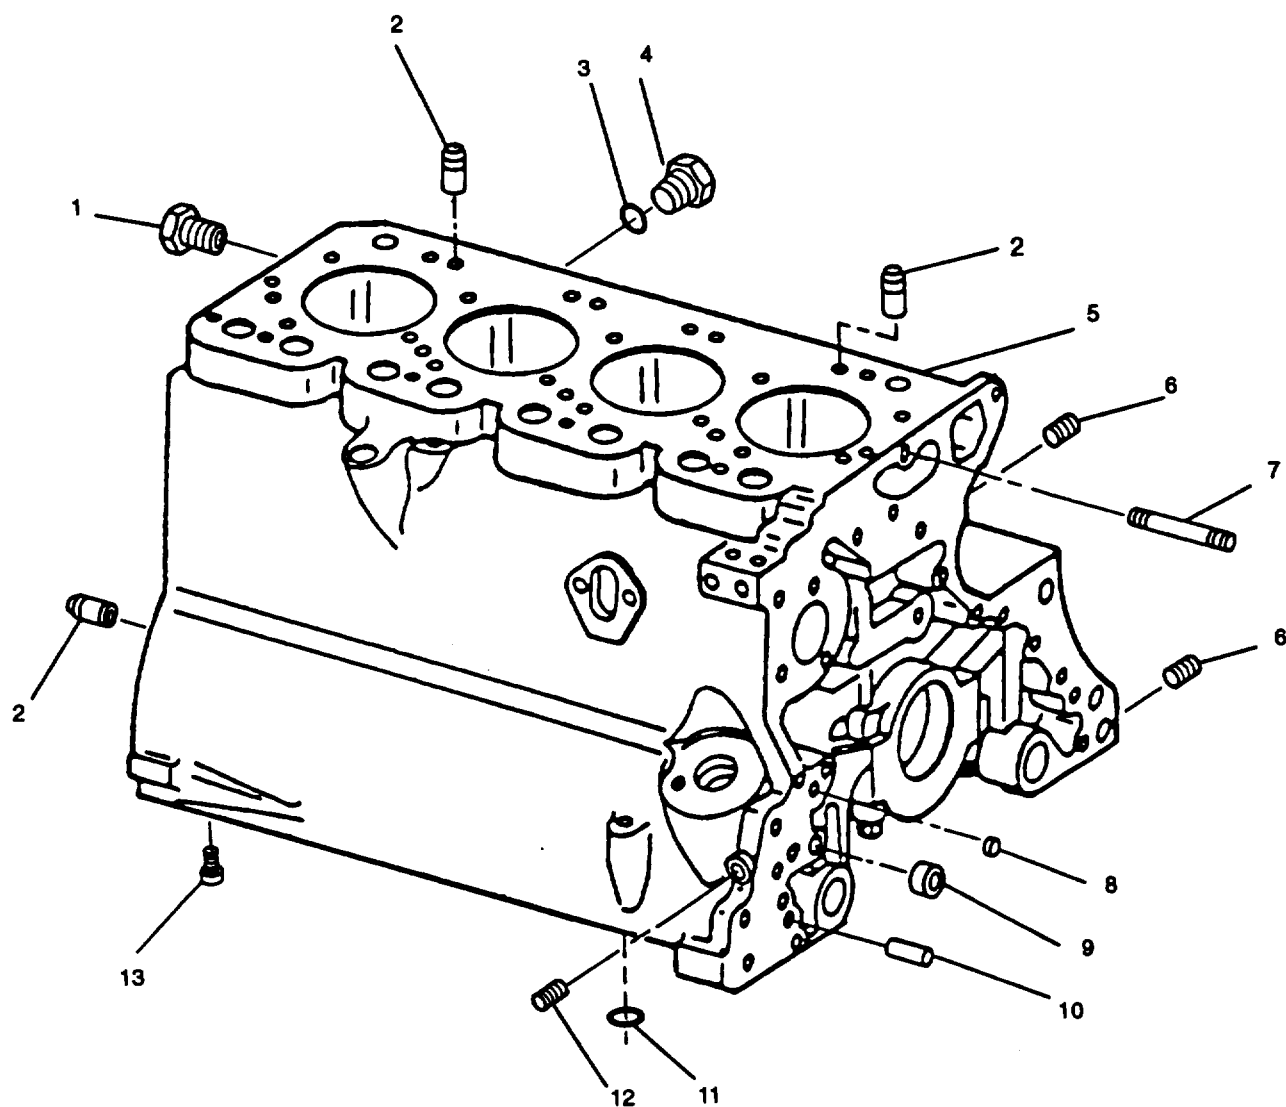

FIGURE 3-127. Engine Block
- j. Remove piston cooling nozzles (13, FIGURE 3-127).